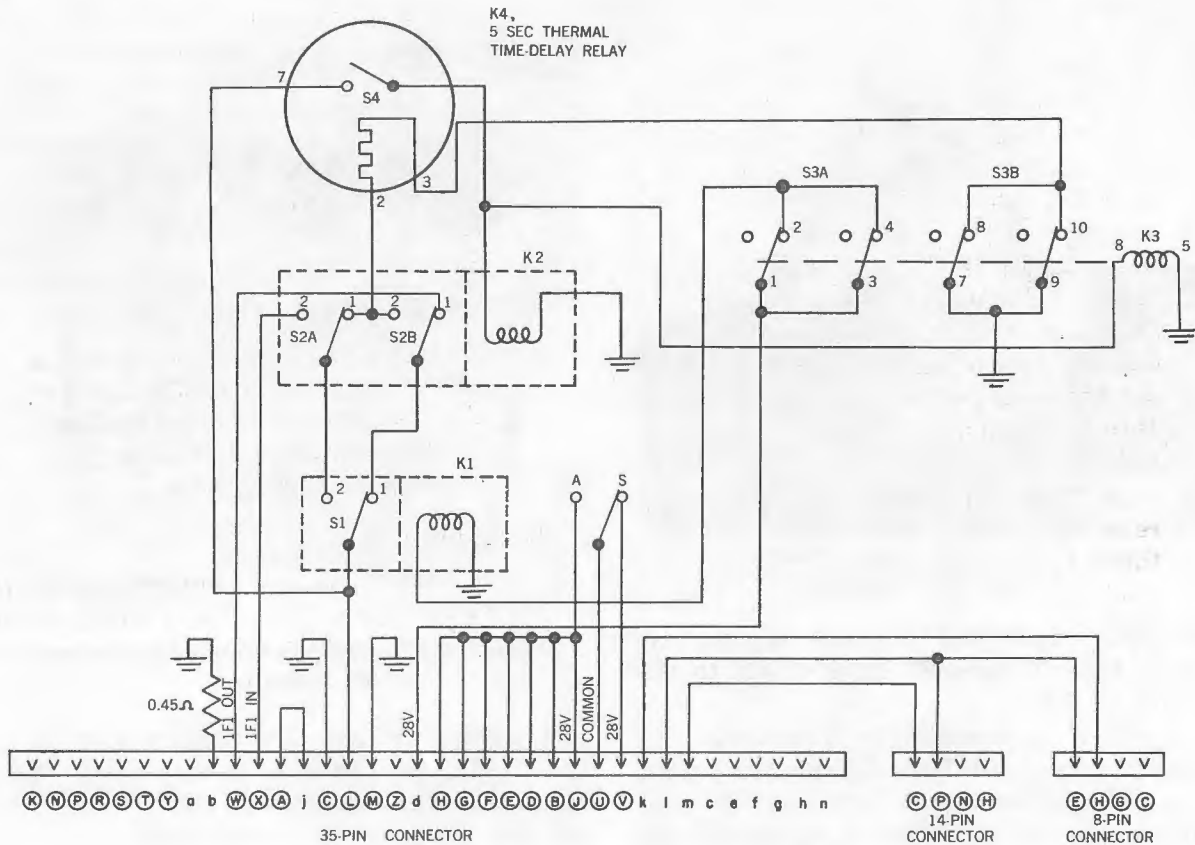

Figure 11-51.—Weapon Response Simulator Mk 4 Mod 0, Schematic Wiring Diagram.
**Operation.** The electrical circuit of the simulator, figure 11-51, consists of components which simulate the IFI operation, the manual safety switch, and the monitoring circuit. The relay and switch designations used in the following discussion are for reference only; the designations do not appear on the components. These statements assume that the simulator is connected to the test set; and the lights referred to here are located on this test set.
two position switch. The common lead, figure 11-51, completes a 28-volt circuit to either the MSS ARMED or SAFE light on the test set or on the control box.